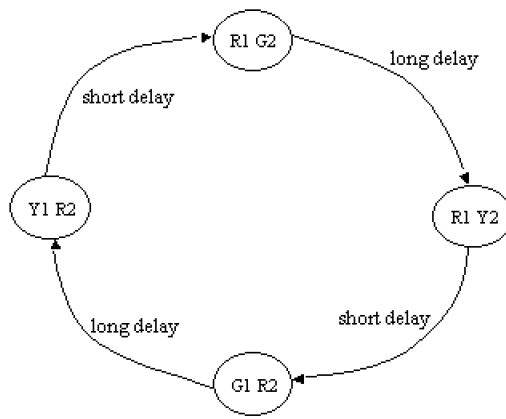

Figure 1. Flow Diagram for Traffic Light Behavior
2. Assemble and run the program "answer.asm" that is found in the EE18/Lab9 folder. Verify that it behaves as specified in figure 1.